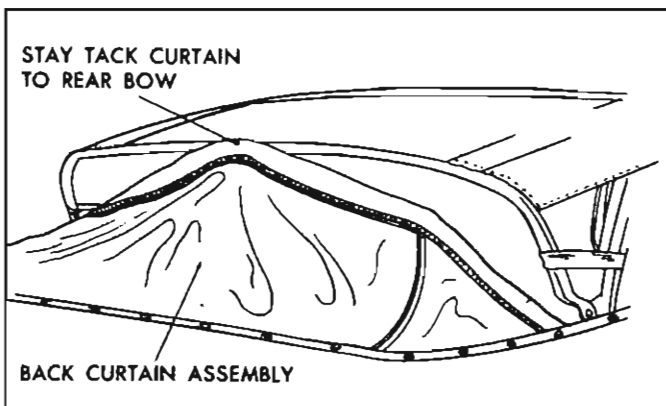

Fig. 52—Stay Tacking Back Curtain at Rear Bow
14. Secure back curtain assembly with one tack to rear of bow, to prevent damage to plastic sheet (fig. 52).